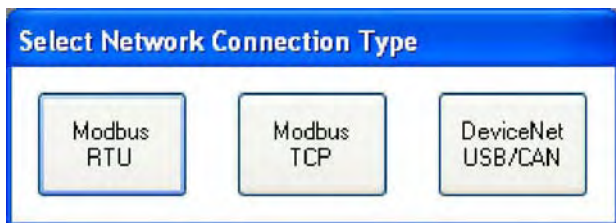

Figure 2-Network Connection
The Modbus assembly allows the master controller to read setpoints and real-time data in any order independently of the published memory map. To configure the assemblies, use Solutions to write parameters MAssem500WrdXX and MAssem501WrdXX. The parameters that can be entered into MAssem500WrdXX and MAssem501WrdXX can be found in Table 13 and Table 16. The value entered into each parameter is the Modbus address of the parameter that the user desires to view. Figure 2 show a Modbus assembly configured for 23,24,25,26 which if the user reads 0x500 for 4 word the assembly will return Vca, Vbc, Vab, and Average Voltage respectively.
Step 2. Select **Modbus RTU** from the **Select Network Connection Type** dialog box (see Figure 2)